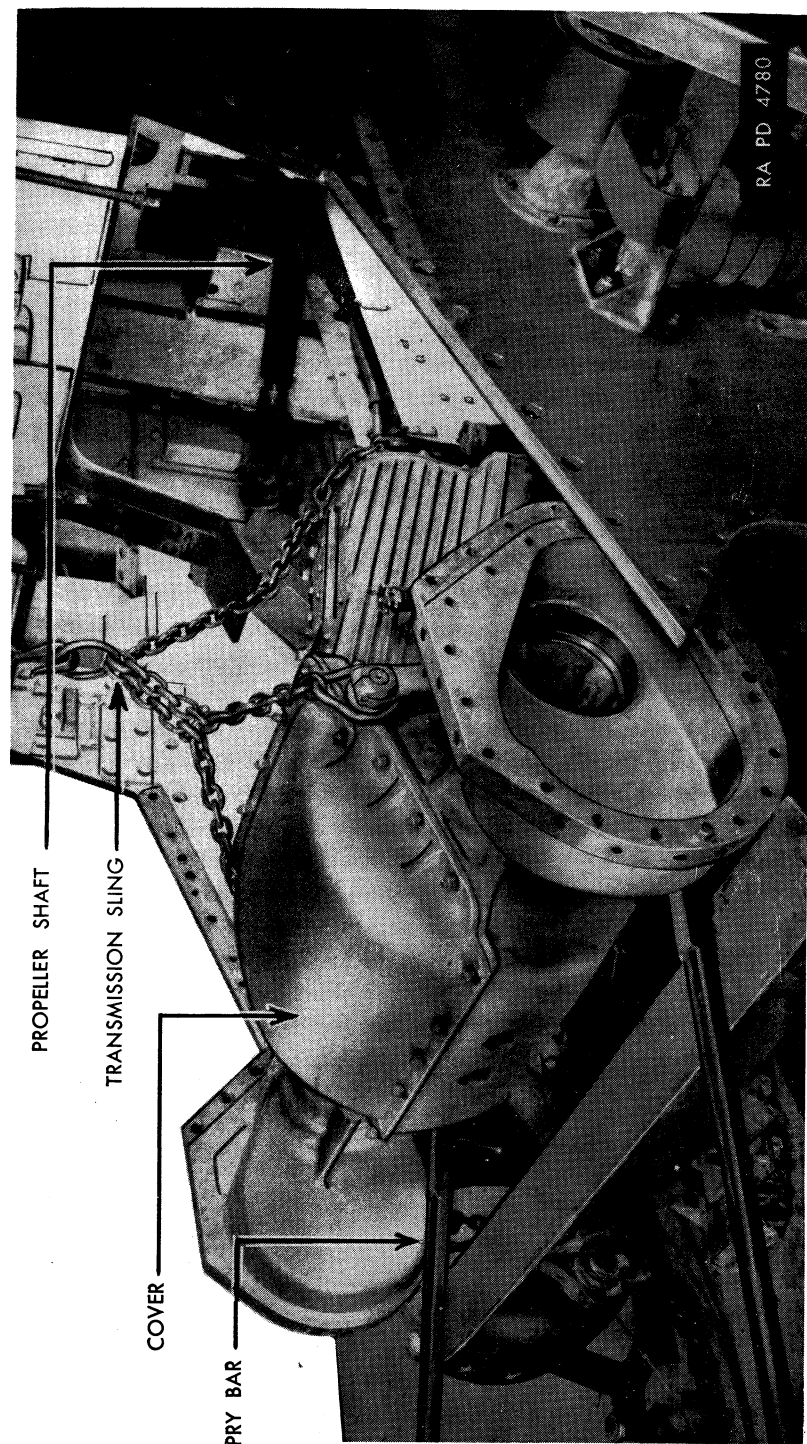

FIGURE 11—Removing the transmission.
(34) Attach chains (fig. 11).
Place the hook or ring of hoist directly above the transmission breather and about six inches from it (fig. 11). Loop a chain around the input shaft, and right and left transmission brake band shafts. Adjust length of chains so that center of lift is directly above breather and about 10 inches from it.
(35) Remove transmission from hull of tank (fig. 11).